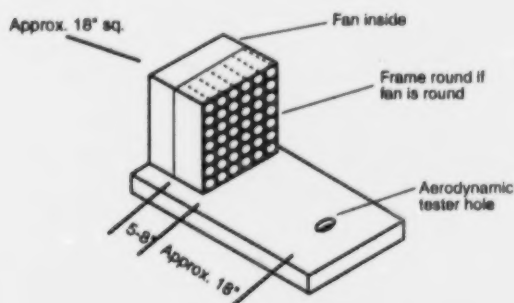

Figure 5 - Fan Frame Setup
3. Glue tubes together (do not crush) and into frame at far end opposite the fan opening (see Fig. 5).